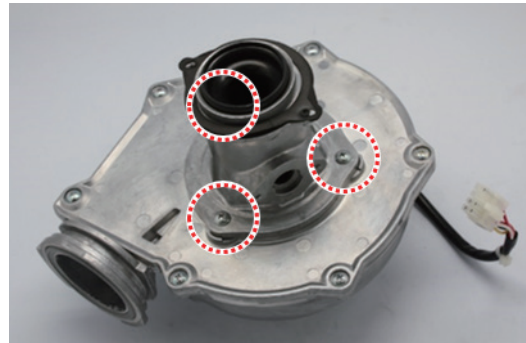

Figure 6
12. Attach the gas valve connection back to the fan assembly by using the three screws as shown in figure 6.